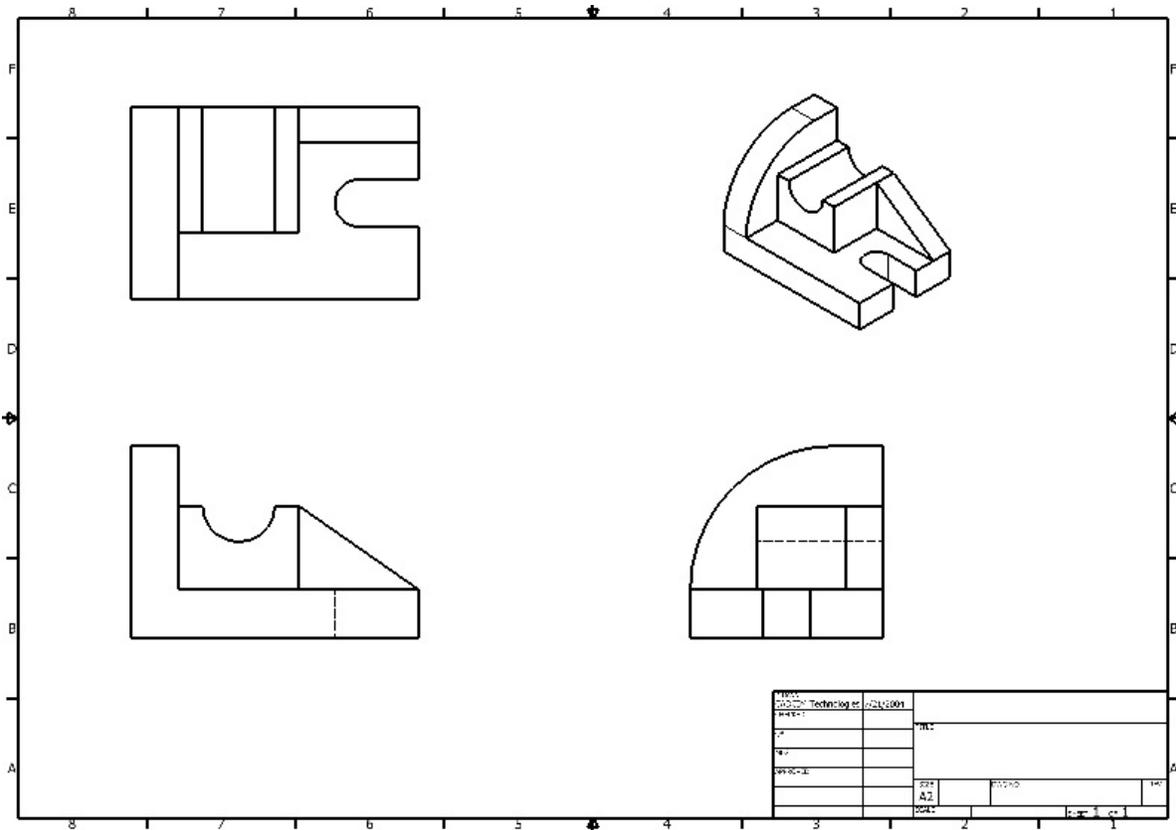

Figure 12-22 Drawing sheet after generating the drawing views
2. Taking the front view as the parent view, generate the right-side view and the isometric view. Modify the scale of the isometric view to **1**, see Figure 12-22.